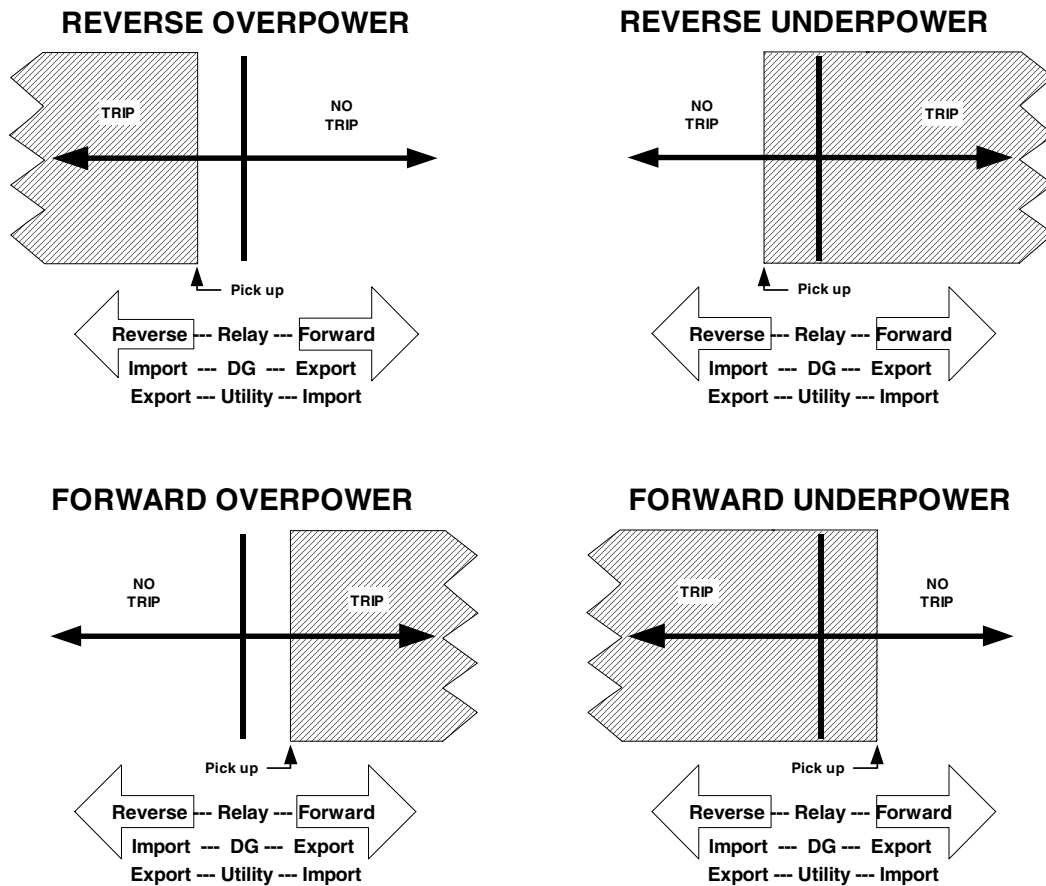

Figure 3-26 Directional Power Configurations
Directional Power protection (32) is available in either the Reverse Overpower, Reverse Underpower, Forward Overpower or Forward Underpower configuration presented in Figure 3-26. A power import and export convention that considers Dispersed Generation (DG), Utility and the M-3410A perspectives is also included. The directional power function provides two power elements, each with a direction setting, magnitude setting and time delay, and configurable as an underpower or overpower element.